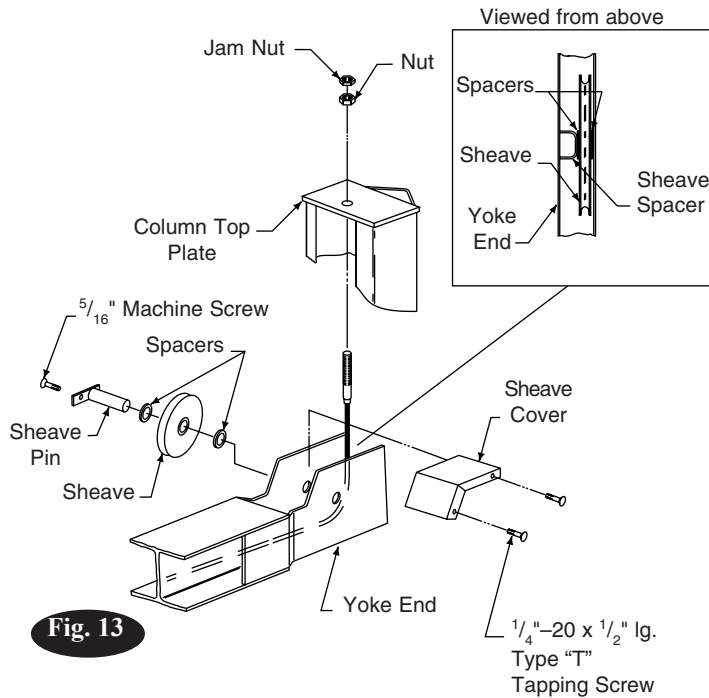
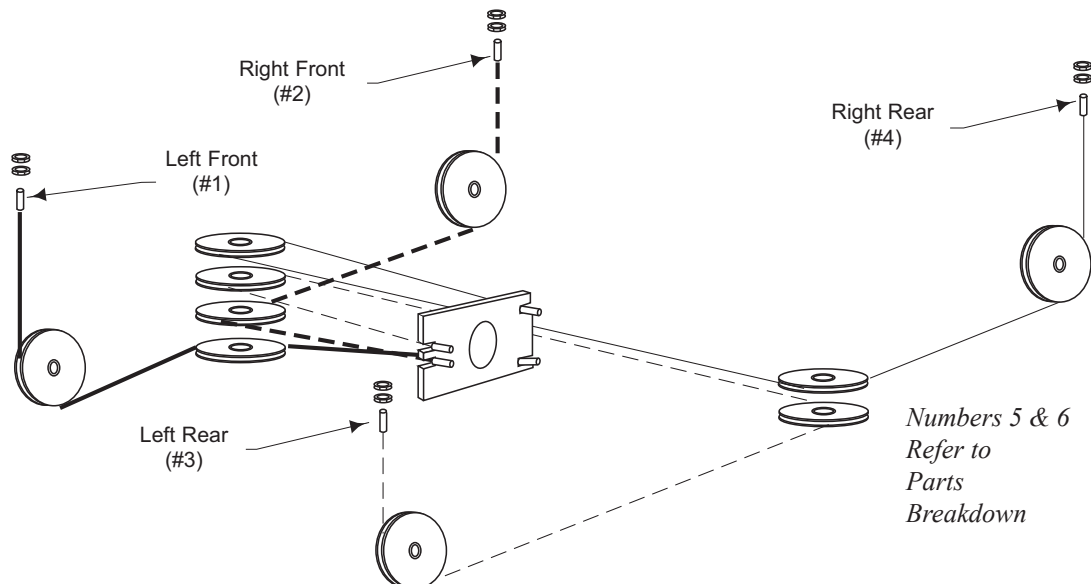

Fig. 13
Fig. 14
Install yoke end sheaves, Fig. 13. Retain with sheave pin and  $\frac{5}{16}$ " pan head machine screw, Locktite the screw threads. Attach each cable to column top plate with nut and jam nut. Install sheave covers on each yoke end, Fig. 13. Roping diagram shows a view of completed roping, Fig. 14.
- 8. Adjust Cable:** Adjust all cables with lift fully lowered. Loosen cable jam nut. Tighten adjusting nut on cable stud on top of column until yoke end is raised  $\frac{1}{4}$ ". Back off adjusting nut one (1) turn. Tighten jam nut. Do this for all four (4) cables. See Fig. 13.